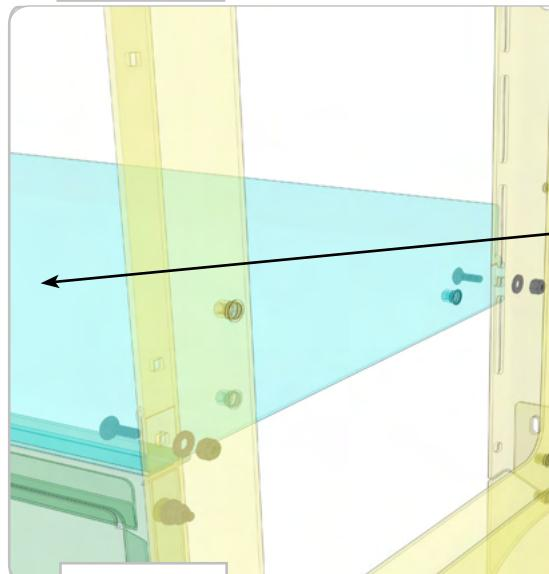

FIG 48
3.7 Install Cabinet Shelf: Attach the Cabinet Shelf to the Left and Right Cabinet Ends using (4) 1/4-20 x 0.75 Square Neck Carriage Bolts, Flat Washers and Nylon Locknuts. There's a final mounting location in the middle of the unit that will take (1) 1/4-20 x 0.75 Square Neck Carriage Bolt, Flat Washer and Nylon Locknut to finish out this step (FIG 48).